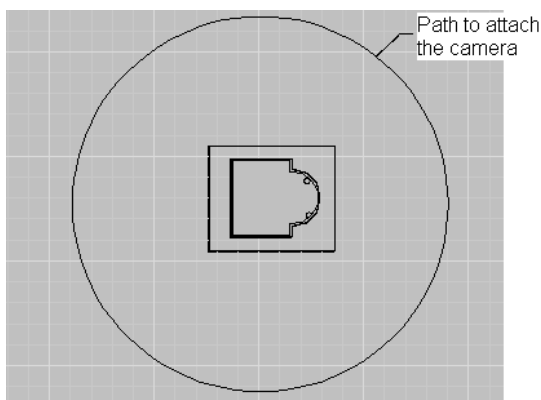

Figure 30-98 Top view of the model displaying the path to attach the camera
3. Change the view of the model to the top view and create the path to attach the camera, see Figure 30-98.